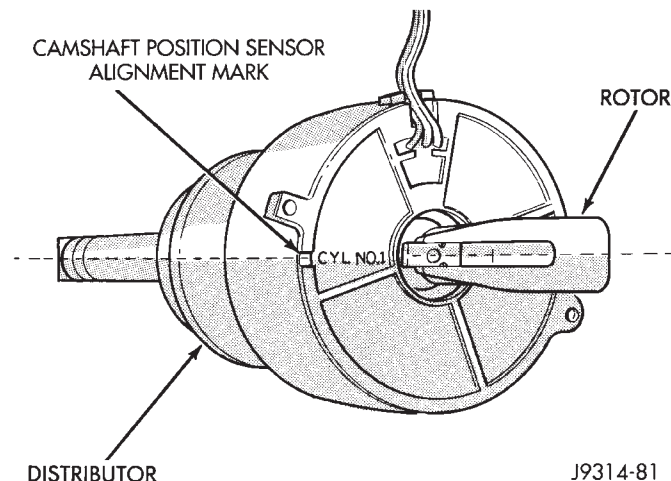

Fig. 34 Rotor Alignment Mark—5.2L/5.9L Engines
- (10) The distributor rotor should now be aligned to the CYL. NO. 1 alignment mark (stamped) into the camshaft position sensor (Fig. 34). If not, rotate the crankshaft through another complete 360 degree turn. Note the position of the number one cylinder
(1) Clean top of cylinder block for a good seal between distributor base and block.
(2) Lightly oil the rubber o-ring seal on the distributor housing.
(3) Install rotor to distributor shaft.
(4) Position distributor into engine to its original position. Engage tongue of distributor shaft with slot in distributor oil pump drive gear. Position rotor to the number one spark plug cable position.
(5) Install distributor holddown clamp and clamp bolt. Do not tighten bolt at this time.
(6) Rotate the distributor housing until rotor is aligned to CYL. NO. 1 alignment mark on the camshaft position sensor (Fig. 34).